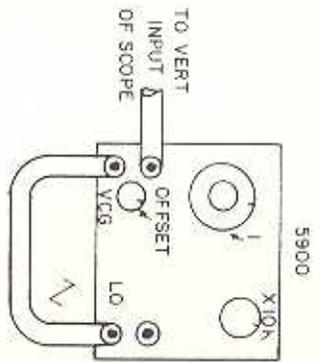

Fig. 34 To obtain a pulse output from 5900
1. Set-up equipment as shown in Fig. 34.